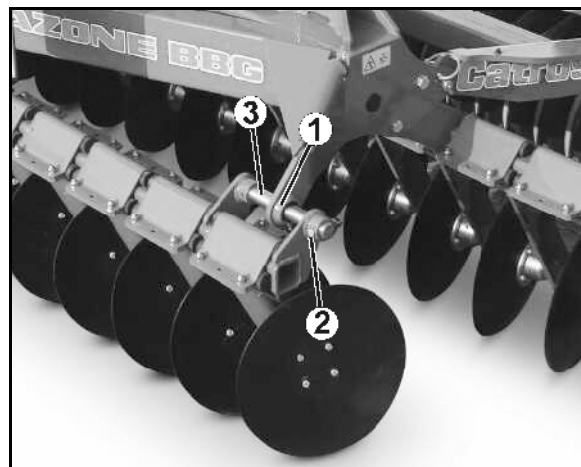

Fig. 39
To replace the slide bearings (Fig. 39/1), place the folded-out machine down so that the slide bearings are free from tension.
- 1. Release the screw union (Fig. 39/2) of the shifting shaft (Fig. 39/3).